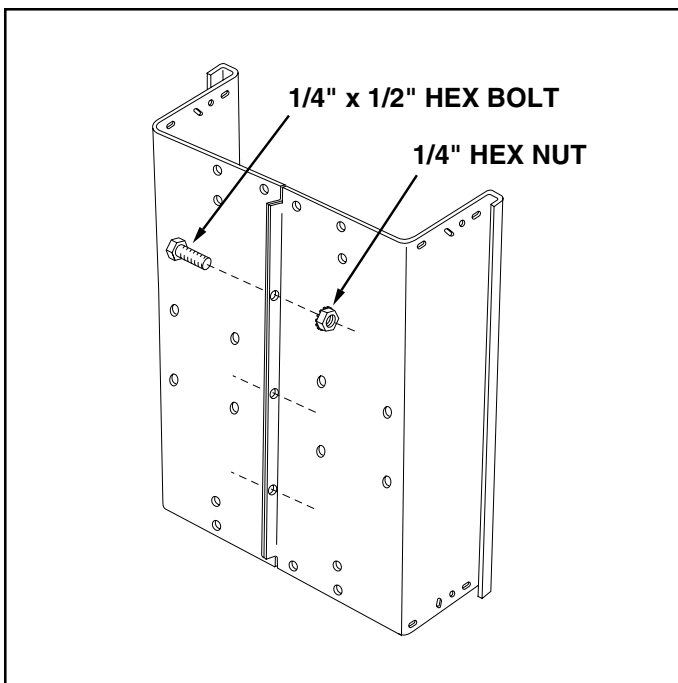

FIGURE 2
3. Position cart body halves upright on a smooth level surface such as a garage floor or a paved driveway. See figure 2.
4. Assemble halves together using three 1/4" x 1/2" hex bolts and 1/4" hex nuts as shown in figure 2. **Do not tighten.**